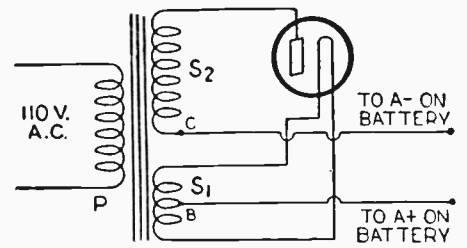

FIG. 12—Wiring diagram of a Tungar type battery charger, showing charging (S2) and filament (S1) windings of transformer.
(12) Mr. J. Reed, Springfield, Mass., asks:
A. 1. Fig. 12 is a schematic diagram which shows the electric apparatus and connections necessary to assemble a two-ampere battery charger, which will operate on the usual 110-volt A.C., 25 to 60 cycles. The diagram shows a transformer with three windings, which we will designate as P, S1 and S2. P is the primary winding and is connected to the 110-volt A.C. light socket. S1 is the filament secondary and supplies the power for heating the Tungar bulb filament. This winding is provided with a center tap B which is used as the positive lead for the charger. Winding S2 is the charging winding and supplies the necessary potential to operate the rectifier tube proper. Leads are taken out from points B and C and run, respectively, to the positive and negative terminals of the storage battery.